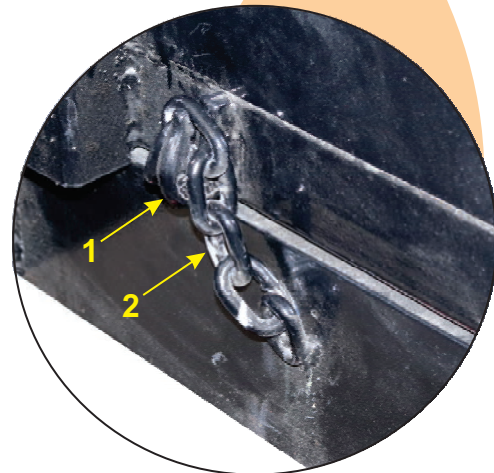

Figure 3-23 – Trailer Dump Body Latch Chain Locked
- To prevent uncontrolled trailer raising while traveling, secure the dump body to the trailer frame using the latch hook (1, **Figure 3-23**) and chain (2, **Figure 3-23**).